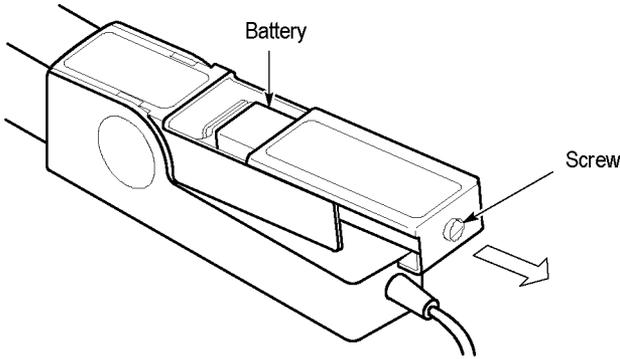

Figure 5: A622 battery compartment
2. Open the battery compartment by loosening the captive screw and sliding the cover off (see Figure 5: A622 battery compartment on page 8).